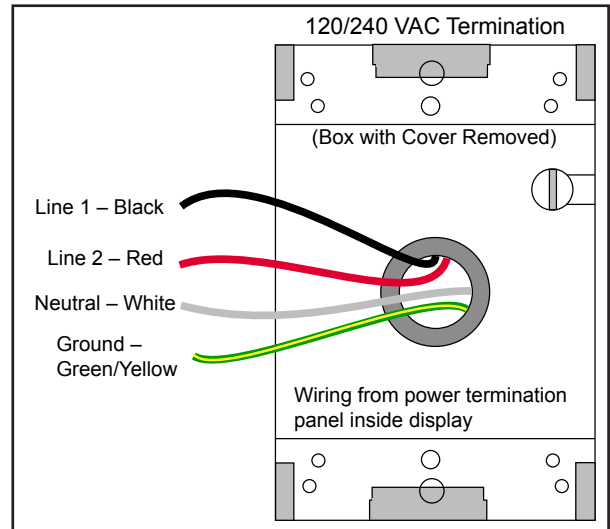

Figure 4: 120/240 V J Box Termination
3. Inside the external J box, connect the power wires to the wires coming from the display interior using wire nuts. Refer to **Figure 4** for 120/240 VAC.